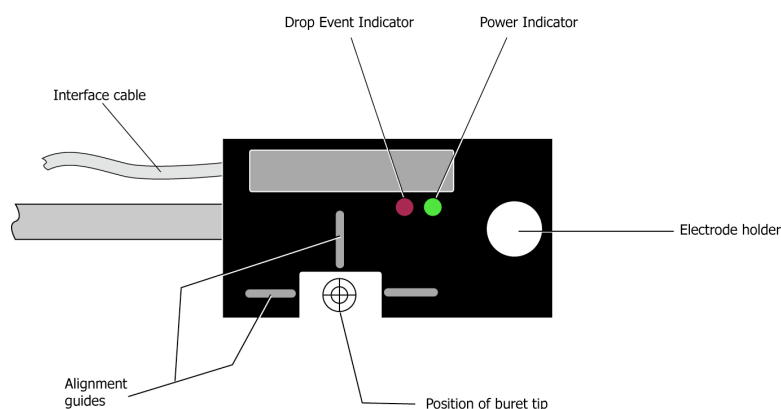

Figure 5.2 Align the burette tip using the guides on the top of the drop counter.
- 5.8** Adjust the position of the burette tip so that it is aligned with the alignment marks on the Drop Counter (**Figure 5.2**). The burette tip should be positioned 3-5 mm above the opening in the drop counter.